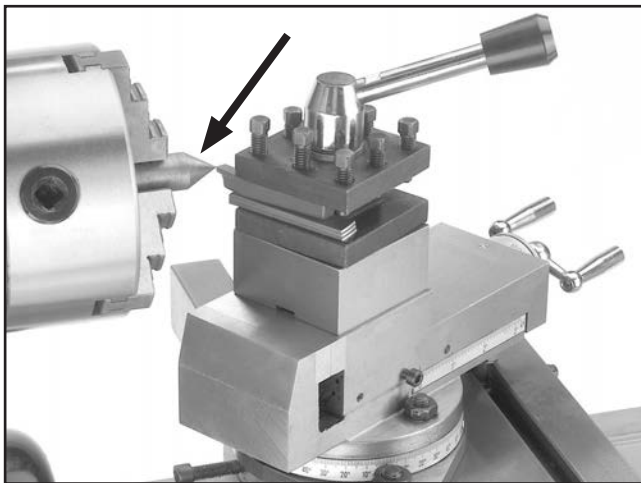

Figure 39. Finished dead center.
2. Make a dead center by turning a 60° point on a piece of scrap material (**Figure 39**).